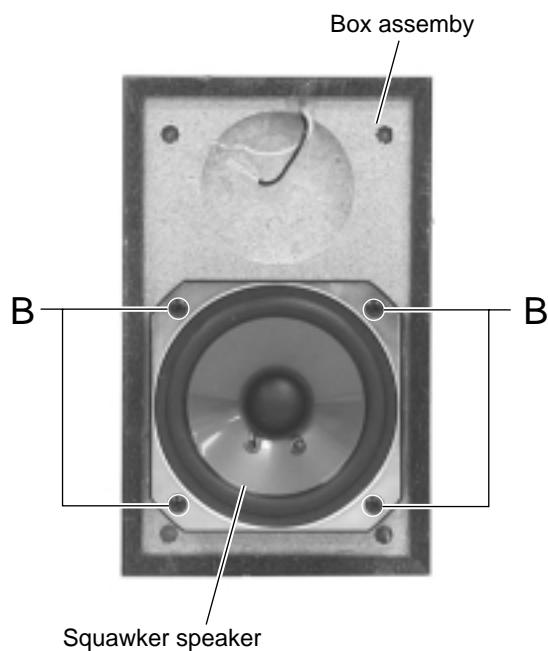

Fig.6
■ Removing the squawker speaker (See Fig.6)